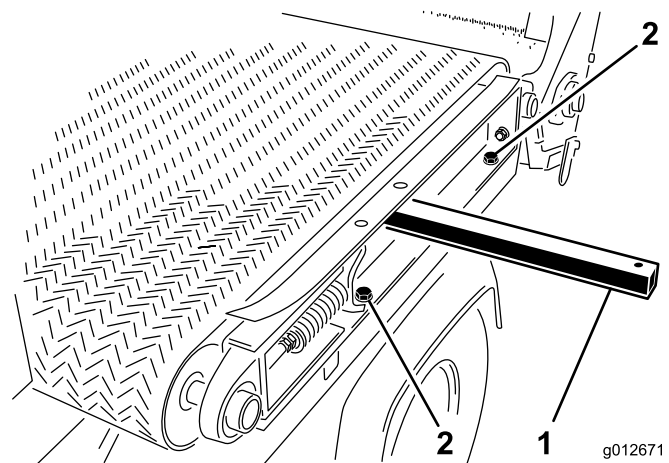

Figure 26
7. Remove (2) capscrews, washers and nut, on left side of machine, securing slider bed to frame (Figure 26).
- Insert a lift bar into hole on left side of machine and raise lift bar to tip slider bed (Figure 26).